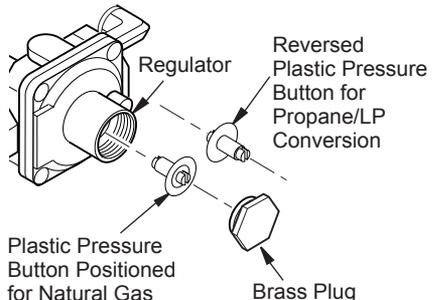

Figure 10 - Adjusting Regulator Pressure for Conversion
9. To adjust regulator pressure, remove the brass hex plug from regulator (see Figure 10).
10. Remove the plastic pressure button from the brass plug (see Figure 10).
11. Reverse the plastic pressure button and replace it into the brass plug (see Figure 10).